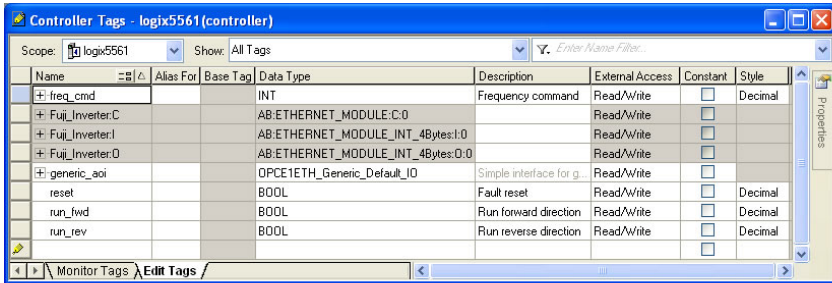

Figure 91: Create Generic Default AOI Tags
- 4) Create the tags in Figure 91.